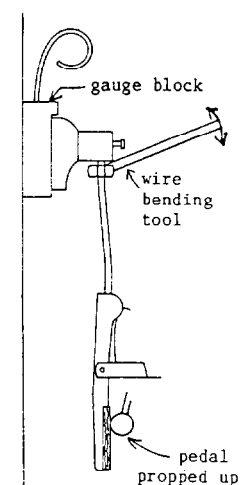

figure 3: gauge blocks used to set sample dampers
Step 4: With the damper rod propped up in the desired position, carefully adjust your sample damper heads using the gauge blocks chosen in Step 2. Normal samples would be the first and last bass damper heads, one head which will have trichord felt, the first and last heads to have flat felt and one around note 55. Spend time to get the samples consistent, so the gauge blocks just fit between the heads and strings without moving the heads back, and so the heads sit parallel to the gauge blocks, as shown in figure 3.